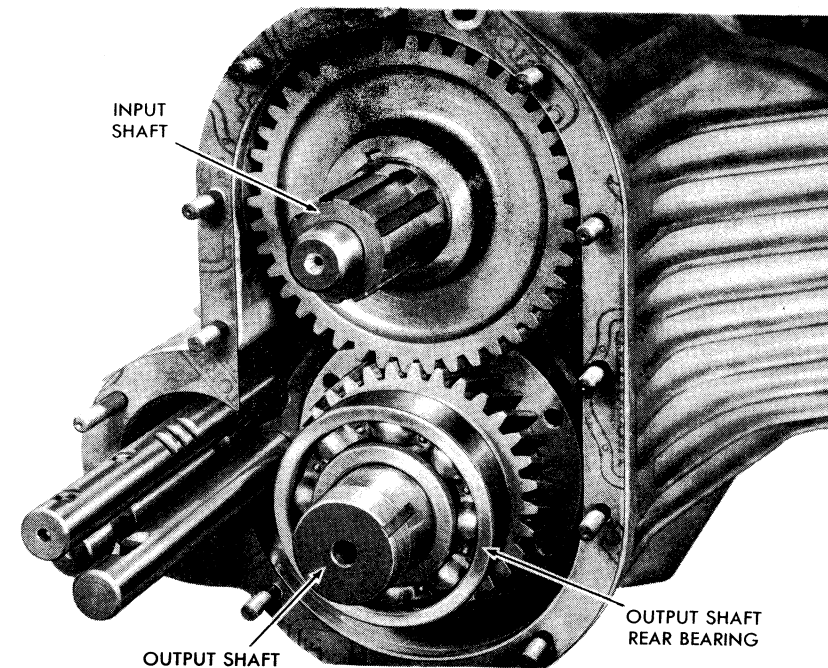

FIGURE 71—Rear of transmission (cover with input shaft bearing removed).
(19) Install output shaft rear bearing, speedometer gear, washer and retaining nut (fig. 71).
Install output shaft rear bearing and drive home with driving sleeve or soft drift (fig. 71). Install speedometer gear on